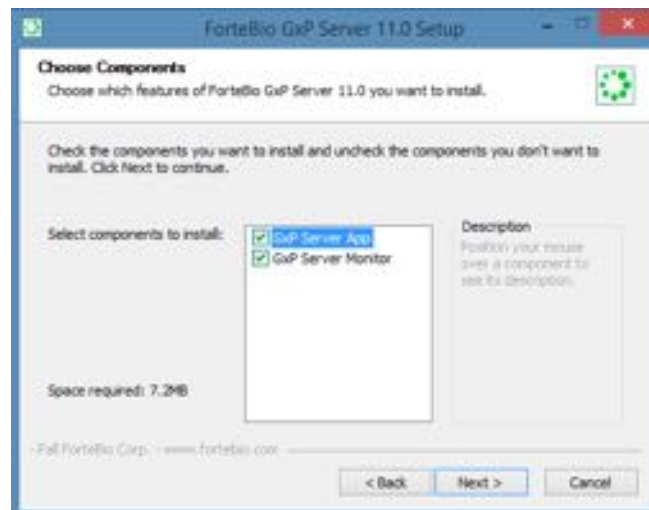

Figure 4-26: Choose Components
4. Click **Next** to display the Choose Components dialog box (Figure 4-26).